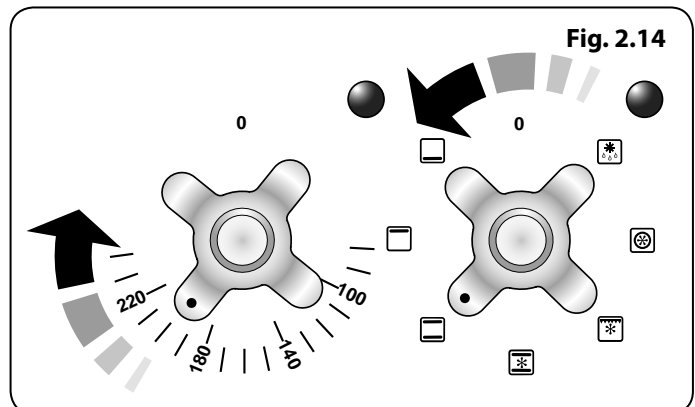

Fig. 2.14
2. Turn the function selector control to a cooking function. **Fig. 2.14** shows the control set for convectional oven cooking.
3. Turn the oven temperature knob to the temperature required (**Fig. 2.14**).